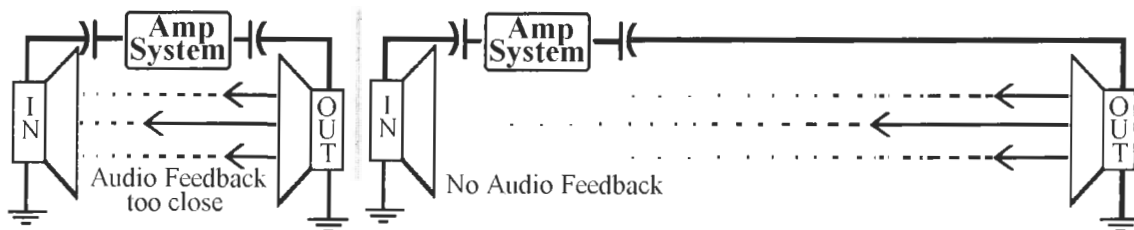

Figure L54-4
- c. As you increase the volume, the circuit might start screeching at you. Notch the gain backward until the screeching stops. The screeching is caused by feedback demonstrated in Figure L54-4. Sound from the output is reaching the input and multiplying itself.